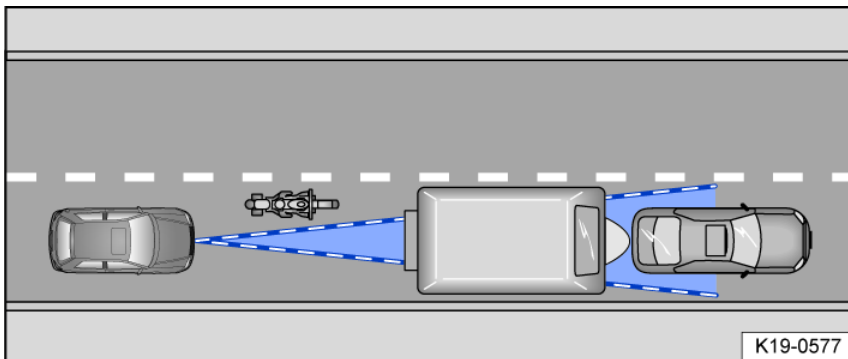

Fig. 129 Narrow vehicle.
- If there are vehicles that are driving close to your vehicle but outside the sensor range, such as motorcycles fig. 129.